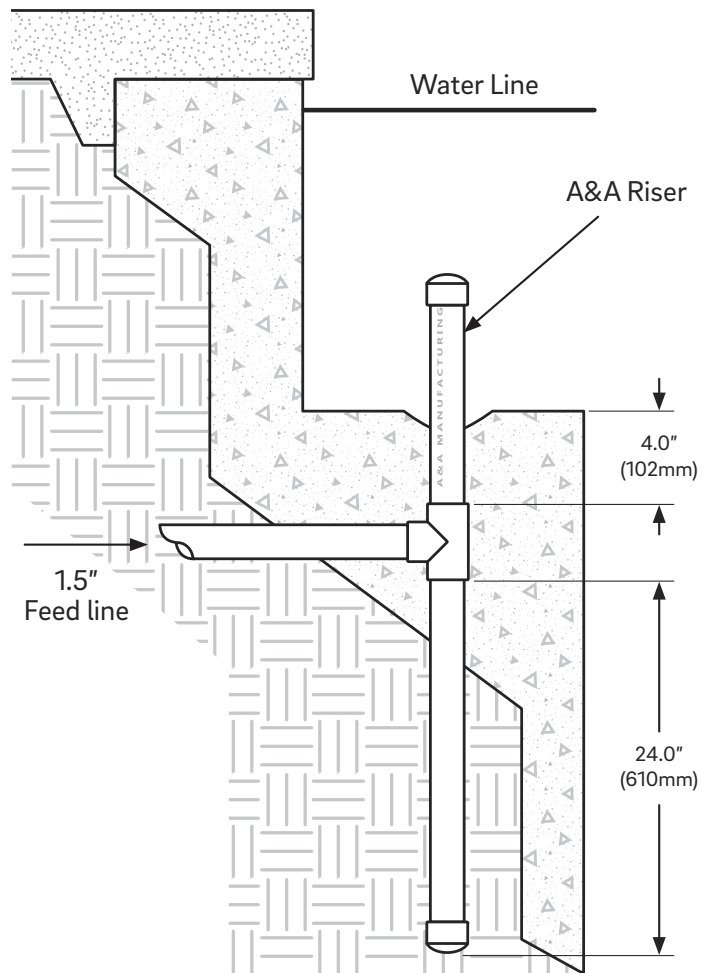

Figure 4
1. Determine the location of each SplashDown and dig the necessary trenches to accommodate the 1.5" feed lines to the fountainheads. Dig a vertical hole at least 25" to 26" deeper than the trench to accommodate the 24" lower fitting (Figure 4).